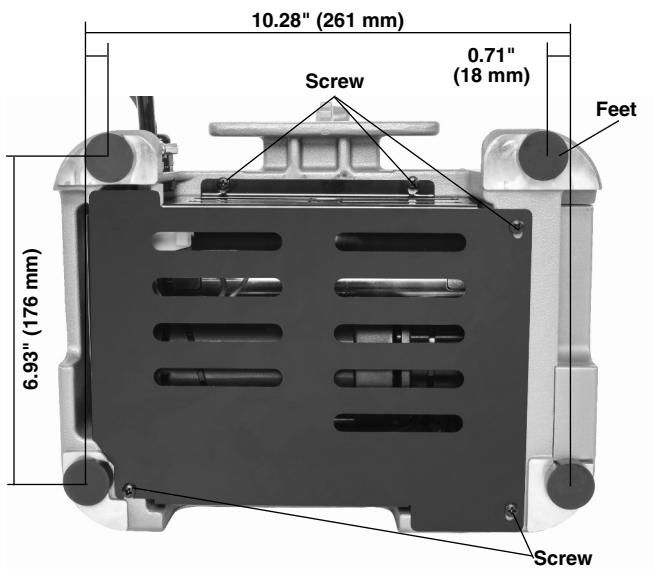

Figure 16 – Bottom Cover Screws
2. Loosen the five screws that hold the bottom cover (*Figure 16*) and remove cover (Some screws are retained to cover).